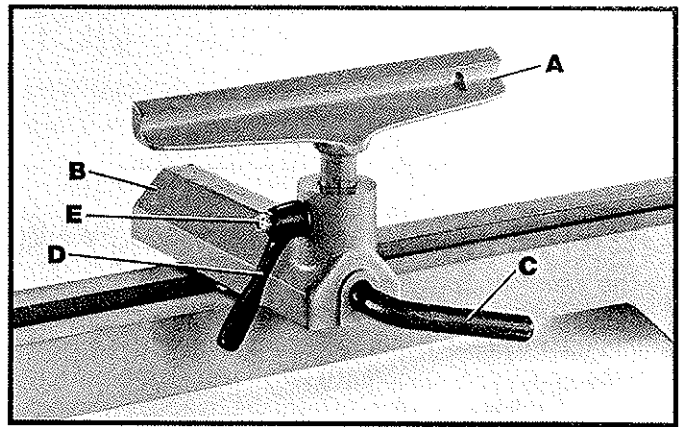
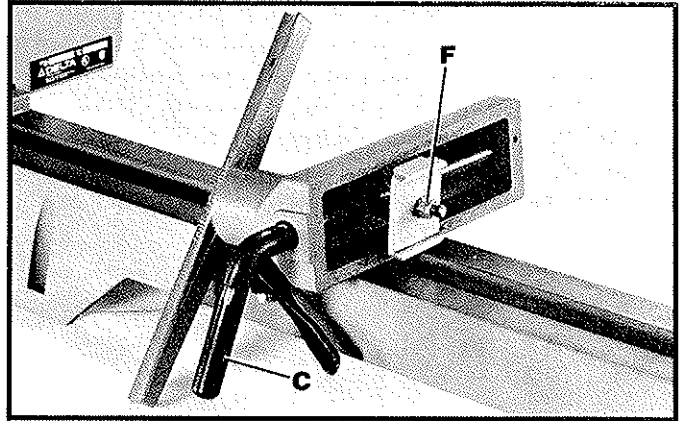

Fig. 20
Fig. 21
The tool rest (A) and tool rest base (B) is shown in Fig. 20. To position the tool rest on the lathe bed, lift up clamp handle (C), move the tool rest base to the desired position and lock in place by pushing down on handle (C). To adjust the tool rest (A) for the correct height, loosen locking lever (D), move tool rest (A) up or down and tighten locking lever (D). **NOTE:** Locking lever (D) can be repositioned by removing nut (E) and lever (D). Reposition lever (D) on the nut located underneath the lever (D) and replace nut (E). Clamping action of clamp handle (C) Fig. 21, can be adjusted by removing the tool rest base from the lathe bed and tightening or loosening nut (F).